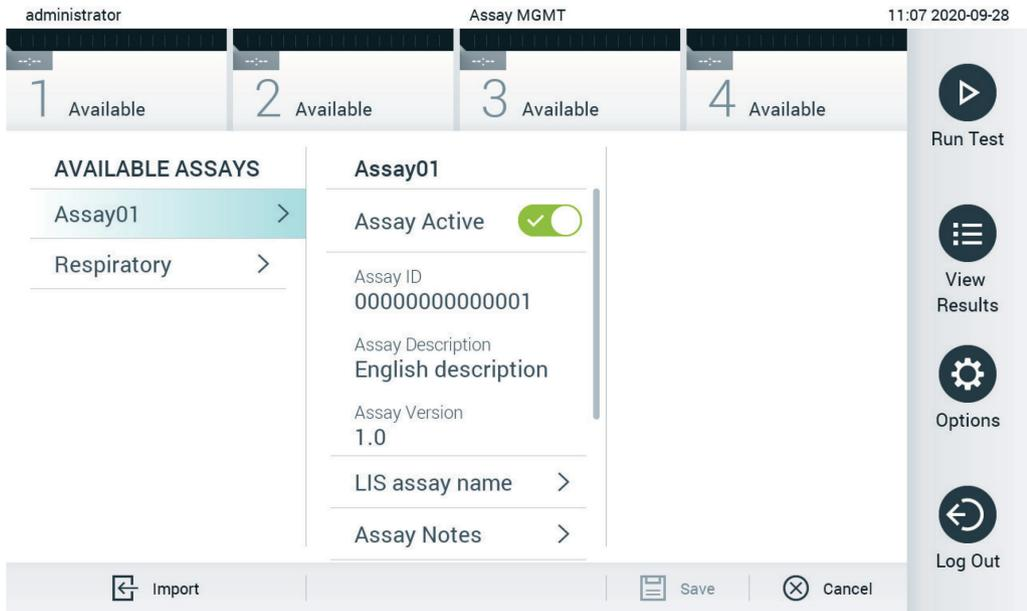

Figure 67. Activating the assay.
7. The assay becomes active by selecting Assay Active (Figure 67, next page).